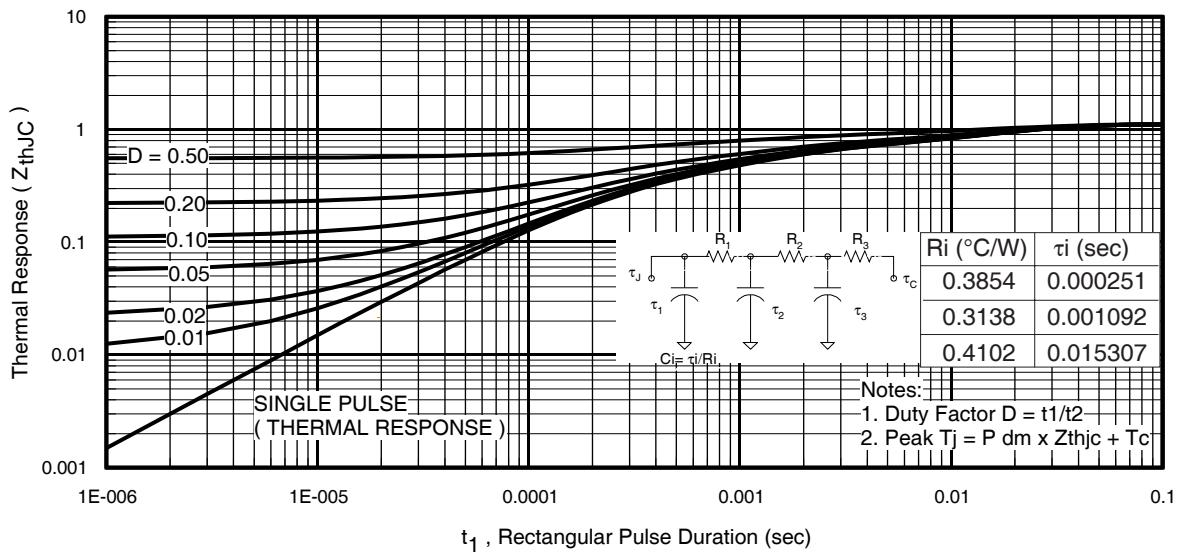
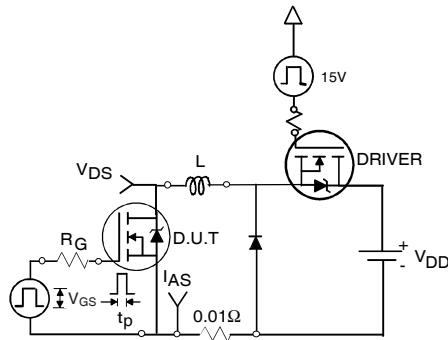

Fig 11. Maximum Effective Transient Thermal Impedance, Junction-to-Case
Fig 12a. Unclamped Inductive Test Circuit
3. Equation below based on circuit and waveforms shown in Figures 12a, 12b.
$Z_{thJC}(D, t_{av})$ = Transient thermal resistance, see figure 11)
- ① Repetitive rating; pulse width limited by max. junction temperature. (See fig. 11).
- ② Limited by T_{Jmax} , starting $T_J = 25^\circ\text{C}$, $L = 0.13\text{mH}$ $R_G = 25\Omega$, $I_{AS} = 42\text{A}$, $V_{GS} = 10\text{V}$. Part not recommended for use above this value.
- ③ Pulse width $\leq 1.0\text{ms}$; duty cycle $\leq 2\%$.
- ④ C_{oss} eff. is a fixed capacitance that gives the same charging time as C_{oss} while V_{DS} is rising from 0 to 80% V_{DSS} .
- ⑤ Limited by T_{Jmax} , see Fig.12a, 12b, 15, 16 for typical repetitive avalanche performance.
- ⑥ This value determined from sample failure population. 100% tested to this value in production.
- ⑦ When mounted on 1" square PCB (FR-4 or G-10 Material). For recommended footprint and soldering techniques refer to application note #AN-994
- ⑧ R_θ is measured at T_J approximately 90°C